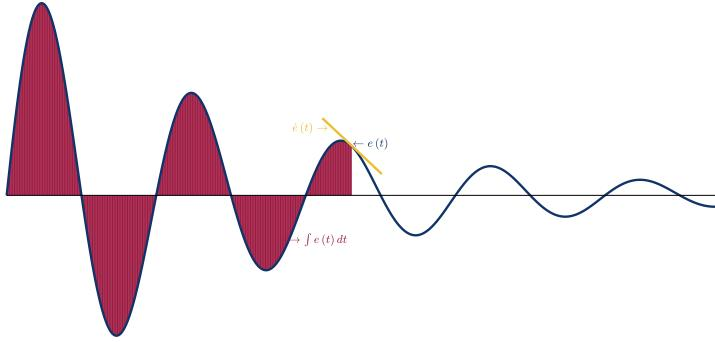

Figure 3.2: Arbitrary error signal with a PID controller acting on it
- Figure 3.2 illustrates the concepts of a PID controller. You have some error signal, where the proportional term acts on the current state of the system, the integral term sums up all previous error, and the derivative term attempts to predict and control future error.